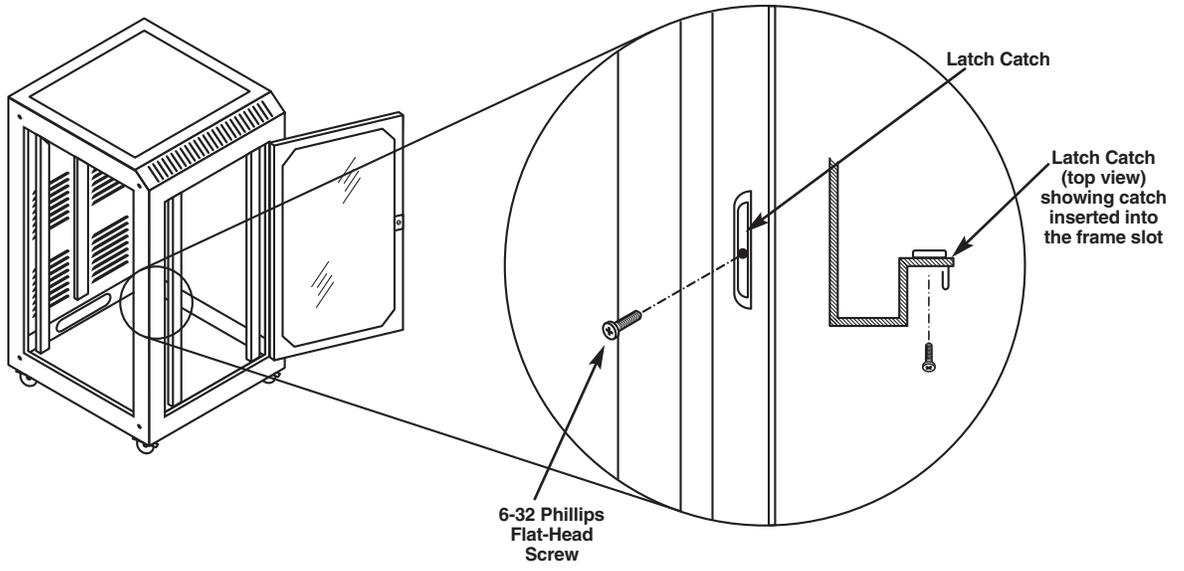

Figure 10. Relocating the latch catch.
5. The latch catch on both door frames can now be relocated to the opposite side of the door opening by removing one Phillips 6-32 flat-head screw from the center of the catch, pulling the catch out through the frame slot, and reinstalling it on the opposite side (Figure 10, on the next page).